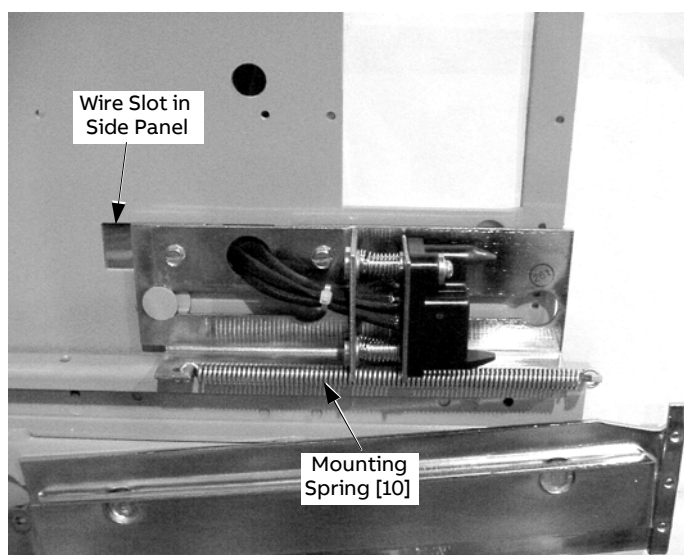

Figure 26. Trip unit disconnect [9] installed on the draw-out substructure.
25. Run the wires from the substructure-mounted trip unit disconnect [9] through the slot in the side of the substructure. Place the enlarged portions of the slots in the disconnect slide over the two shoulder studs in the side panel, as shown in Figure 26.
26. Slide the trip unit disconnect forward in the slot, then connect the spring [10] between the hole in the slide and the anchor tab on the substructure, as shown in Figure 26.